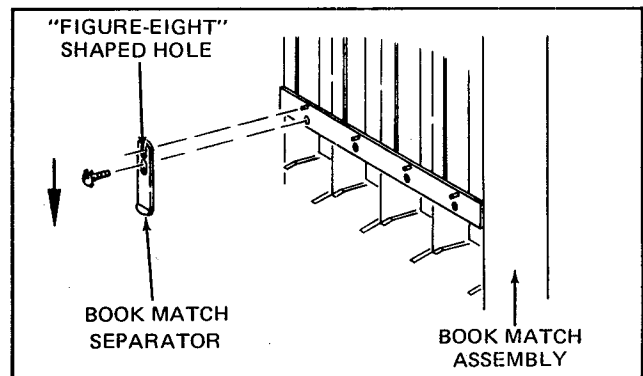

FIGURE 9
- d. Install the Book Match Separator so that the Lip is facing up and that the small round projection on the Book Match Assembly is inside the upper hole of the "Figure-Eight" shaped hole. This provides minimum clearance between the Lip on the Book Match Separator and the Foot on the Book Match Column. Tighten the No. 6-32 attaching screw. See Figure 9.